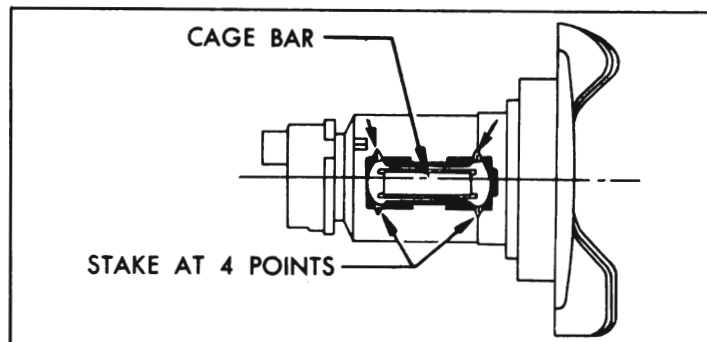

Figure 10-66—Cage Bar Staked in Place
3. Stake cage bar in place as shown in figure 10-66. *Staking must not distort cage.* Reinstall lock cylinder and check operation with key. If operation is satisfactory, plug the drilled hole with a small pin No. 00 x  $\frac{1}{8}$ " (Parker Kalon type "U").